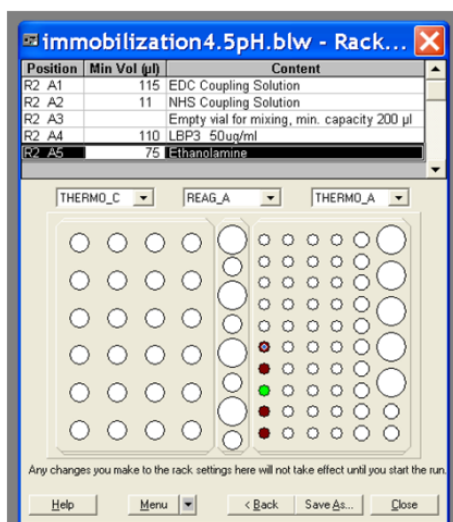

Figure 2. Example of immobilization template showing volume solutions necessary to run the immobilization procedure
3. Prepare vials with EDC, NHS and ethanolamine-HCl solutions. The volume of ligand and solutions (EDC, NHS and ethanolamine-HCl) required is displayed in the immobilization application and depends on how many flow cells will be used (Figure 2).